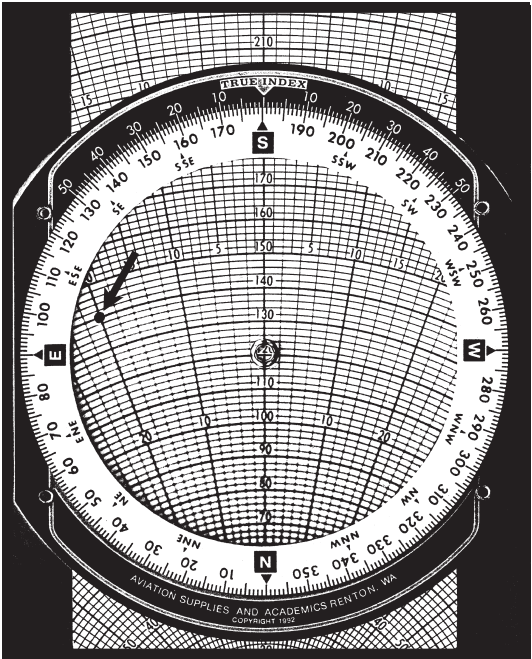

Figure 24
3. With the grommet on the 120-knot ground speed line, find the point on the slide where the  $20^\circ$  left wind correction angle crosses the line marked 140 and make a pencil mark (see Figure 24 on the next page).